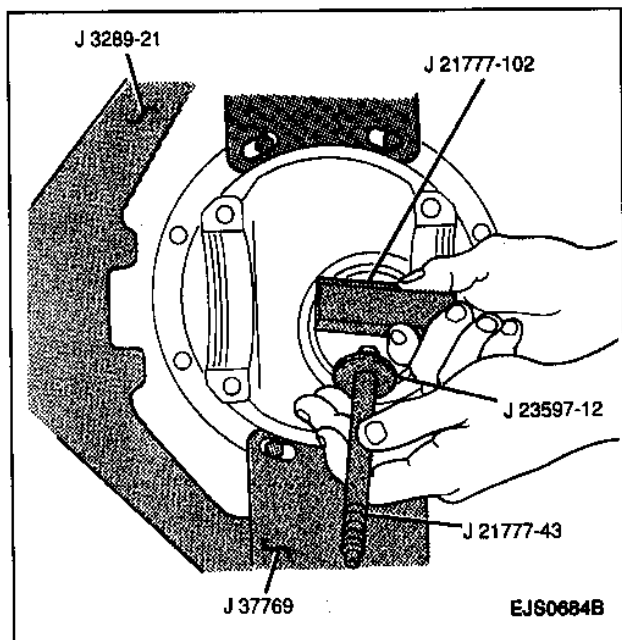

Figure 68—Assembling Gage Block and Stud
Figures 68 through 76
2. Place both inner and outer pinion bearings into the differential carrier and install a J21777-102, a J 23597-12, a J 21777-43 and a J 21777-42 (Figures 68, 69 and 70).